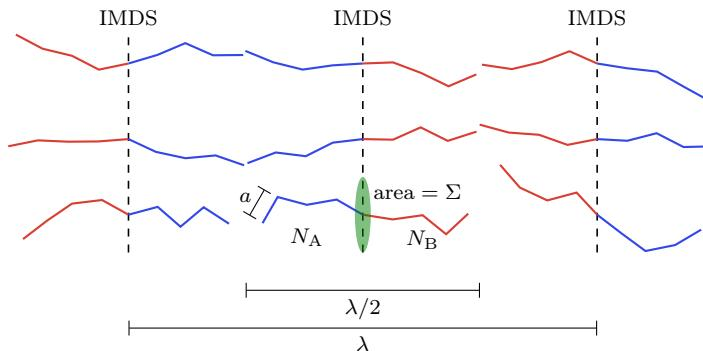

Figure 2.21: Variables describing microdomain spacing.
- In Figure 2.21 as drawn,  $N_A = N_B = 4$ .